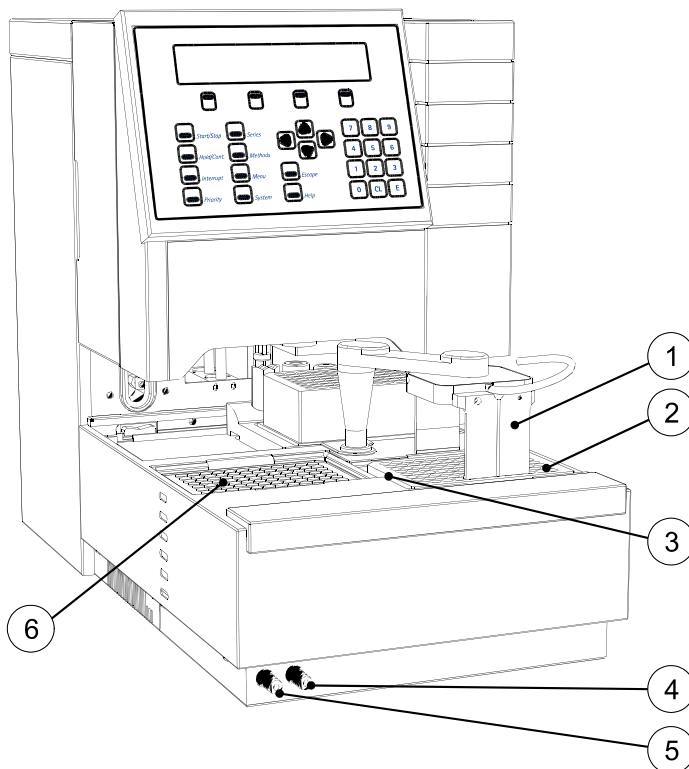

Figure 7 Feeder Option
- <LEFT-LIFT>** to move the left lift up or down (refer to Figure 7)
- <RIGHT-LIFT>** to move the right lift up or down (refer to Figure 7)
1. Place six or two plates (depending on settings) in the right lift (refer to Figure 7).
6. Place a plate on the right lift (see Figure 7, number 2).